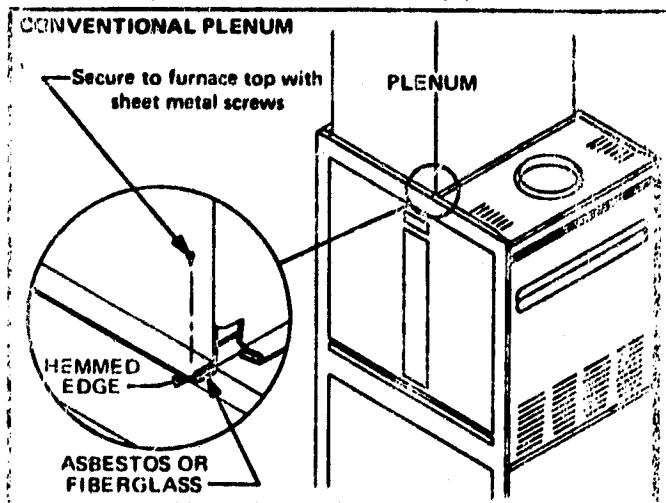

FIGURE 2
- 3 - Install conventional plenum as illustrated in Figure 2. Secure to furnace top with sheet metal screws.